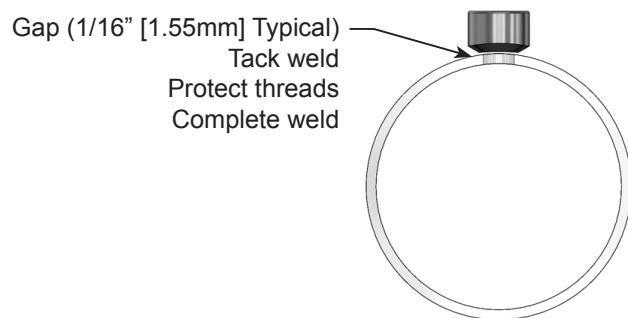

Figure 3. Weld Gap
- Using the appropriate weld gap (1/16" [1.5mm] typical), tack weld the thread-o-let into position (Figure 3). Assemble the support plug into the opposite end thread-o-let (hand tight) and tack weld the opposite end thread-o-let into position, using the tip of the sensor for alignment.